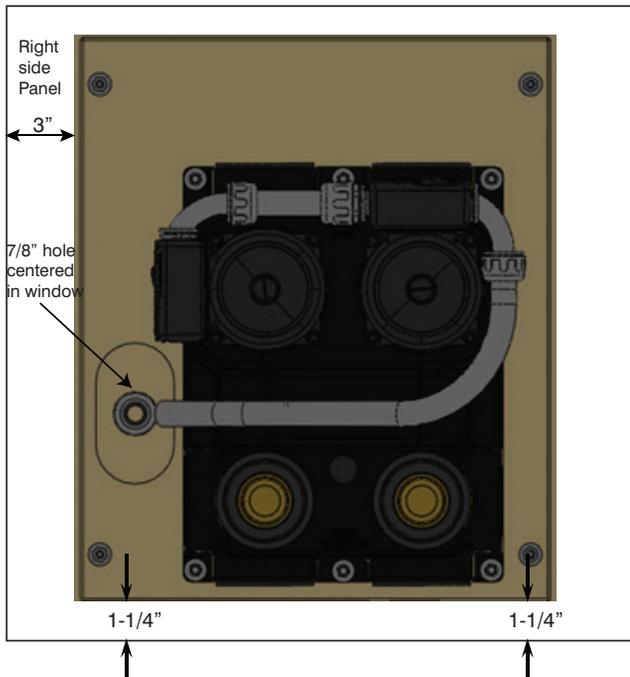

Fig. 4 — Flow Center Panel
- d. Place flow center on the kit base panel, oriented per label on base panel (and Fig. 4 below). Attach flow center to base panel using the provided short (4) self-tapping screws and (4) washers.
- e. Place flow center panel on top of GHP right side panel 3 inches from the left and 1-1/4 inches from the bottom. Measure in two spots per side to ensure the panel is properly aligned and level. (Fig. 4)
- f. Attach flow center panel to the right side panel of GHP using (4) #12 x 2" long self-drilling screws supplied in kit.
- g. Drill or punch a 7/8" conduit hole for the 1/2" conduit fitting in the center of the flow center panel window. (Fig. 4)